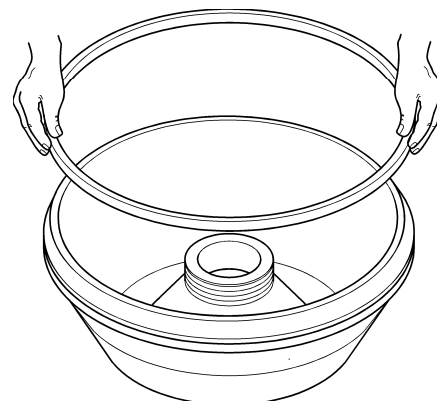
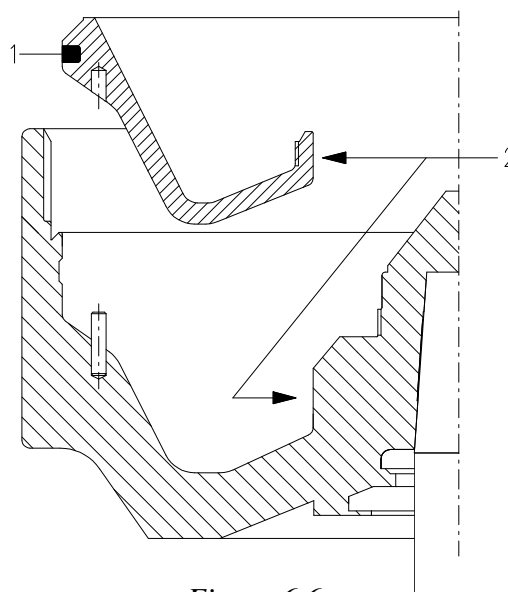

Figure 6.5
Figure 6.6
- 4) Carefully clean the groove on the moving ram and apply the rubber gasket (fig.6.5 and fig. 6.6 - particular 1) using a plastic hammer. Inserting the gasket, pay attention that the surface in contact with bowl body has not shear rags. Be sure that the external surface of the gasket does not protrude from the groove.
- 5) Smear antiscuff grease on the coupling surfaces of the bowl hub and the moving ram (Fig. 6.6 - particular 2).